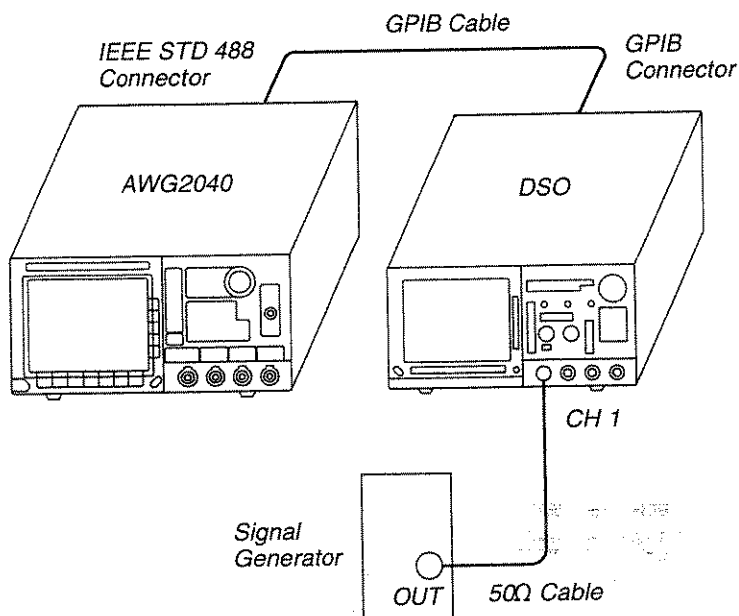

Figure 2-61: Connections for Example 5
- Step 1:** Connect the AWG2040 and the other instruments as shown in Figure 2-61.